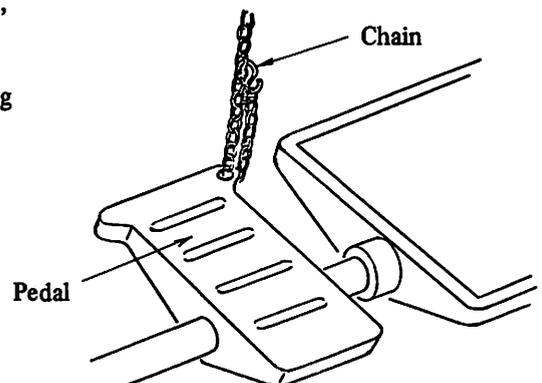

Fig. 10
4.8 Installation of pedal-presser-foot (Fig. 10)
To install the pedal-presser-foot, remove the motor cover, and install the chain and the pedal as shown in Fig. 10.